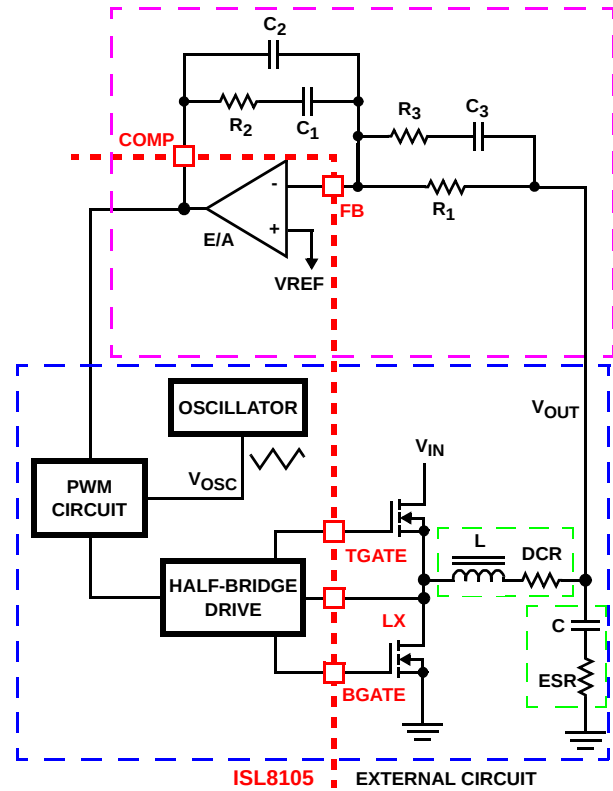

FIGURE 9. VOLTAGE-MODE BUCK CONVERTER COMPENSATION DESIGN
This section highlights the design considerations for a voltage-mode controller requiring external compensation. To address a broad range of applications, a type-3 feedback network is recommended (see Figure 9).
Figure 9 highlights the voltage-mode control loop for a synchronous-rectified buck converter, applicable to the ISL8105 circuit. The output voltage (V_{OUT}) is regulated to the reference voltage, V_{REF} level. The error amplifier output (COMP pin voltage) is compared with the oscillator (OSC) triangle wave to provide a pulse-width modulated wave with an amplitude of V_{IN} at the LX node. The PWM wave is smoothed by the output filter (L and C). The output filter capacitor bank's equivalent series resistance is represented by the series resistor ESR.
Equations 5 through 8 that relate the compensation network's poles, zeros and gain to the components (R_1 , R_2 , R_3 , C_1 , C_2 , and C_3) in Figure 9. Use the following guidelines for locating the poles and zeros of the compensation network:
1. Select a value for R_1 (1k Ω to 10k Ω , typically). Calculate value for R_2 for desired converter bandwidth (F_0). If setting the output voltage to be equal to the reference set voltage as shown in Figure 9, the design procedure can be followed as presented in Equation 5.